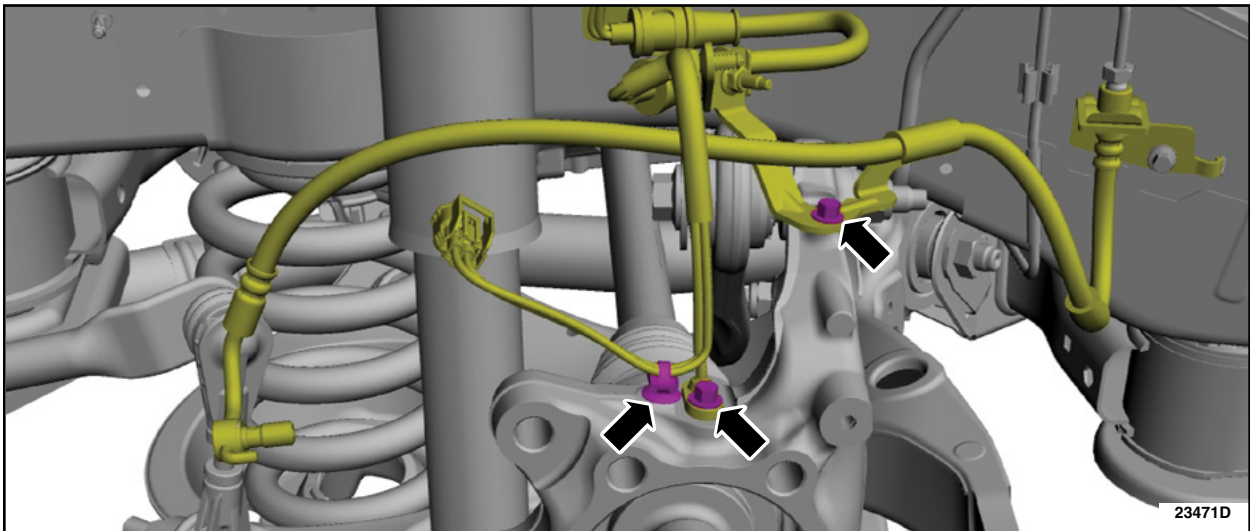

FIGURE 6
10. Remove the LH rear wheel speed sensor bolt and position the wheel speed sensor aside. Then, remove the brake hose bracket bolt and position the brake hose bracket aside. See Figure 6.